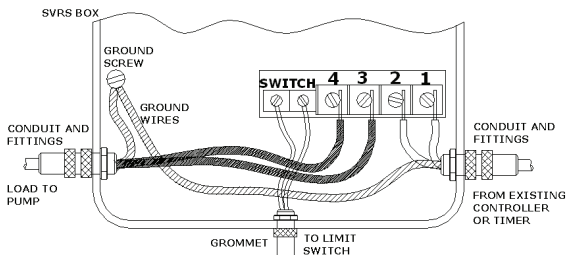

Figure 3. Wiring Diagram
- 4.13 Remove a convenient knockout of the SVRS box casing, route valve leads away from traffic area and connect it to box using proper strain relief grommet then connect leads to box terminals marked "SWITCH" as shown in Figure 3.